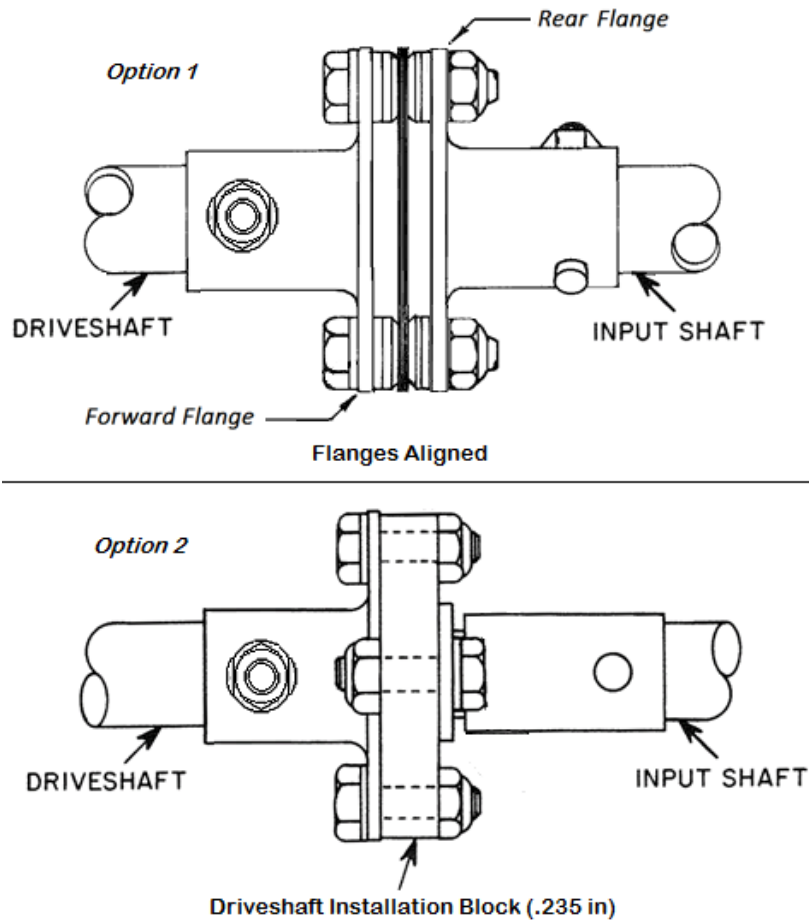

Figure 10-19
- (5) Temporarily slide forward coupling half on the forward end of the driveshaft and place the driveshaft on the tailcone.
- (6) Reassemble the couplings together such that the flanges are in alignment. Install equal thickness spacers between the flex pack and the flanges. An alternate method is to use a .235-inch aluminum block. Refer to Fig. 10-19 for either option.
- (7) Mark the location of the forward coupling on the driveshaft using a felt marker and mark the location of the pillow blocks on the driveshaft.
- (8) Remove the driveshaft from the tailcone.
- (9) Remove the forward coupling from the driveshaft.
- (10) Add 7/8" from the mark on the driveshaft and mark a new line for the end of the driveshaft. Cut the shaft to length.